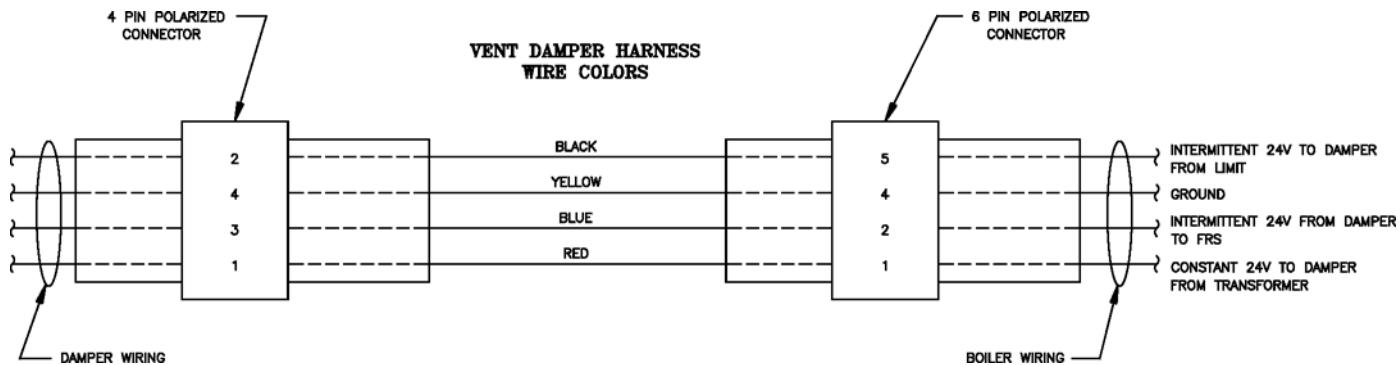

Figure 26: Vent Damper Schematic Wiring Diagram (806H - 810HE)
- F. Vent Damper Sequence of Operation.** See Figure 26 for schematic wiring diagram (806H - 810HE).